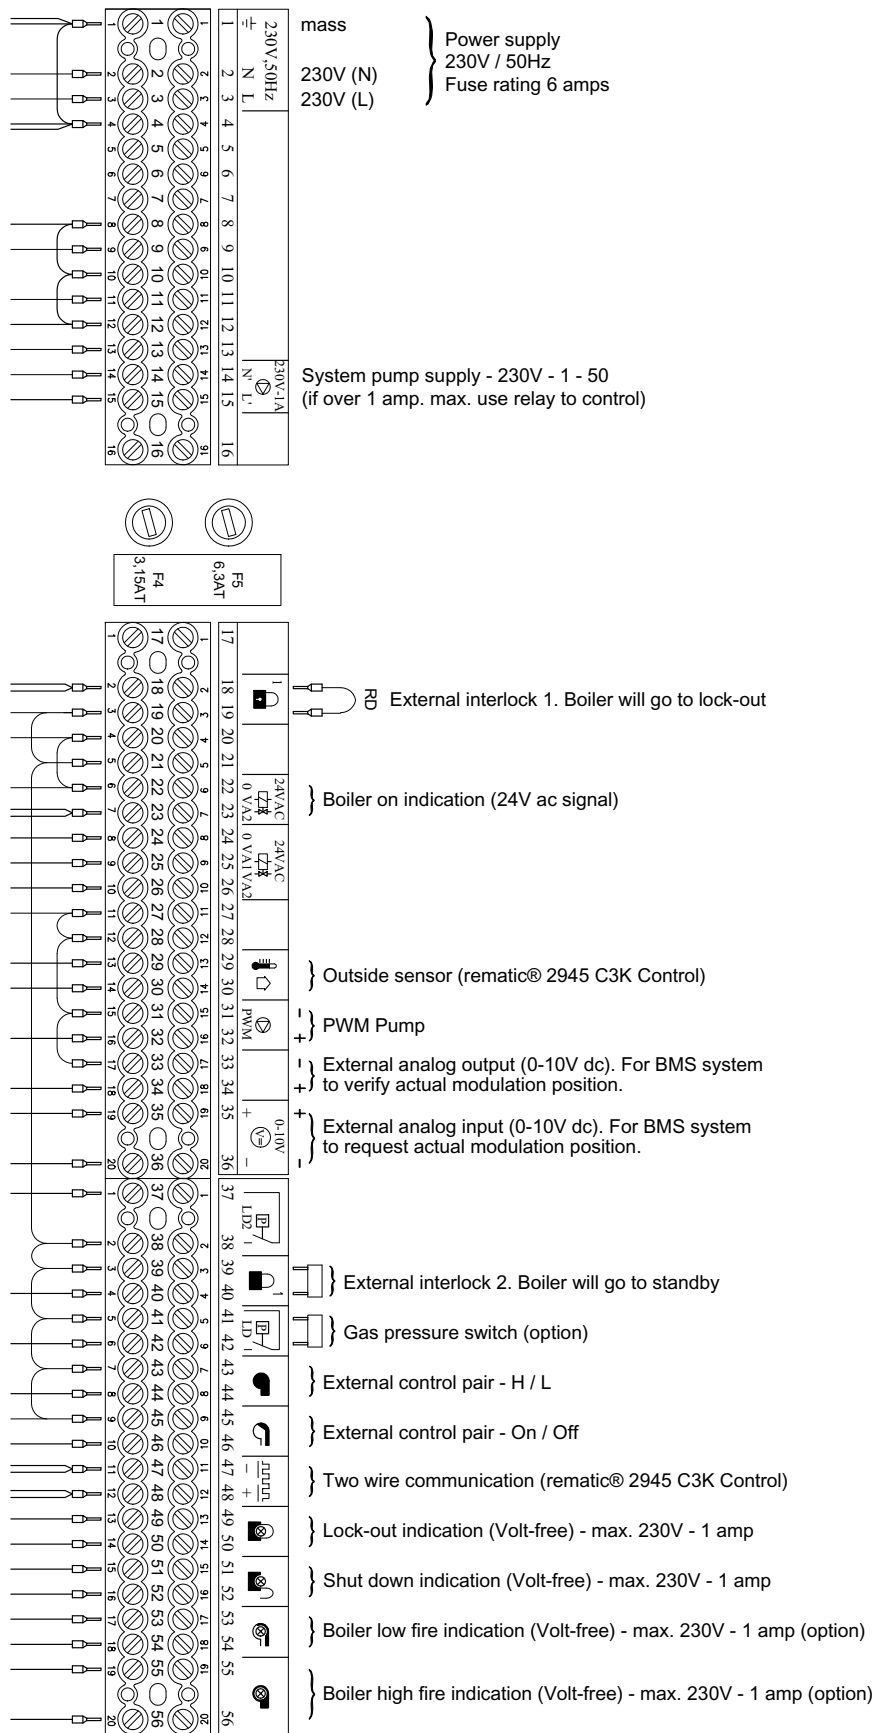

Fig. 15 Terminal strip
- On the terminal strip (see Fig. 15):